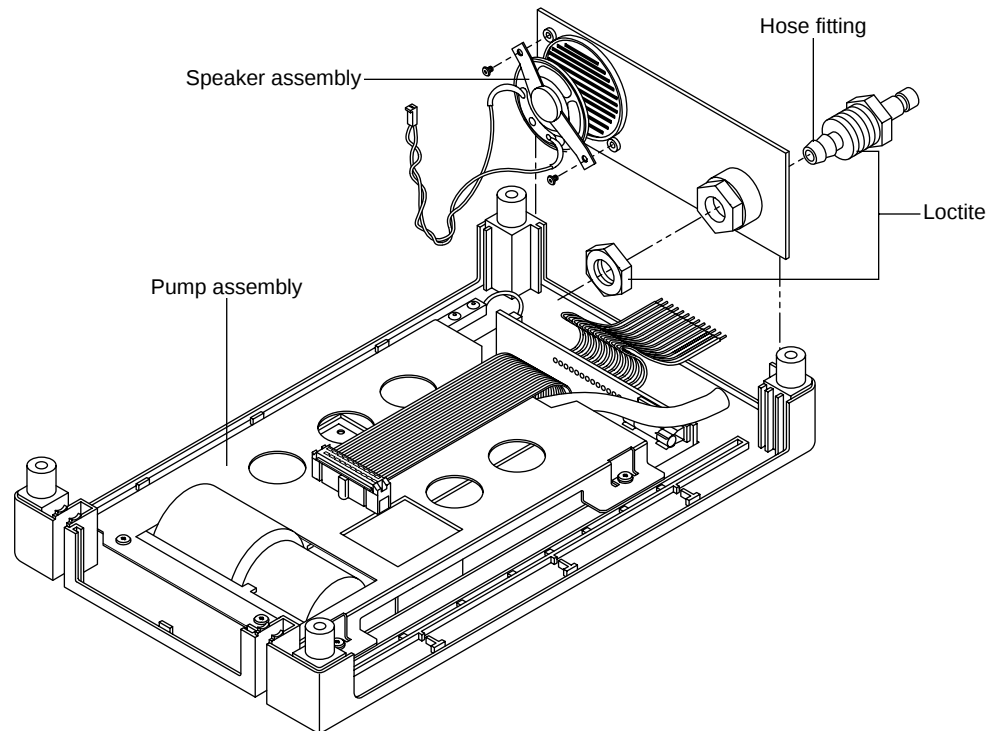

Figure 6-4: Removing the Monitor Speaker Assembly
3. Loosen the two screws securing the monitor speaker assembly to the right side panel as illustrated in Figure 6-4.
5. Install the new fitting, applying LocTite (removable thread locker 242) or equivalent on the hose fitting and retaining nut, as illustrated in Figure 6-4.
6. Ensure that the hose is located as indicated in Figure 6-4 to avoid crimping when the monitor is reassembled. Connect the hose to the fitting.